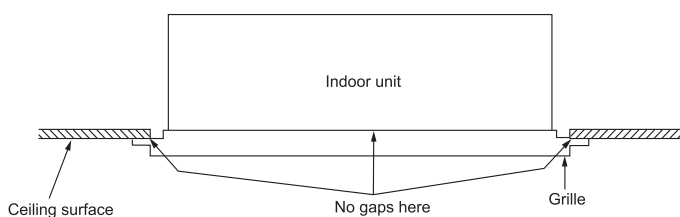

Fig. 6
8. Tighten the 4 fixing screws (2) near the corners installed in step 6.
**(Fig. 6)**